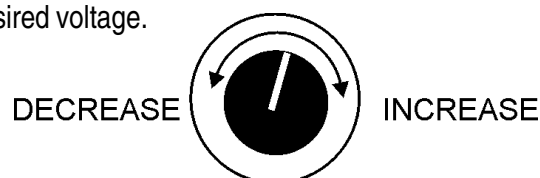

Figure 50. Voltage Adjust Control Knob
10. If the voltage is not reading at the specified level, use the voltage adjustment control knob (Figure 50) to increase or decrease the voltage until you reach the desired voltage.